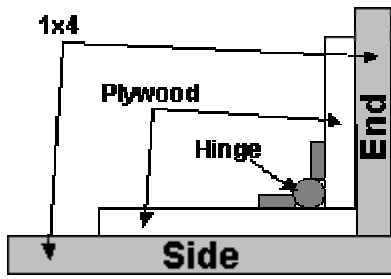

Figure 7
3. Trim [PT] from 2 opposite edges of all the end pieces of plywood, see Figure 3. The trimmed edges will be the sides of the end pieces. This is necessary so that the top and bottom will fit properly - if you need to understand why, you can skip ahead for a quick glance at Figure 7 for a clue. You might mark the top at this point to avoid confusion over which is the top and which is the sides later.
10. Mount the hinges. Stand one side and one end together, with the corners arranged as in Figure 7. Make sure they are square with each other, place the hinges on the inside, mark the holes. Use one hinge on each corner for the small box, and two on each corner for the larger. Remove the pins from the hinge, and using screws, attach each part of the hinge where it was marked. Put the corner together by assembling the hinge and putting the pin back. Do